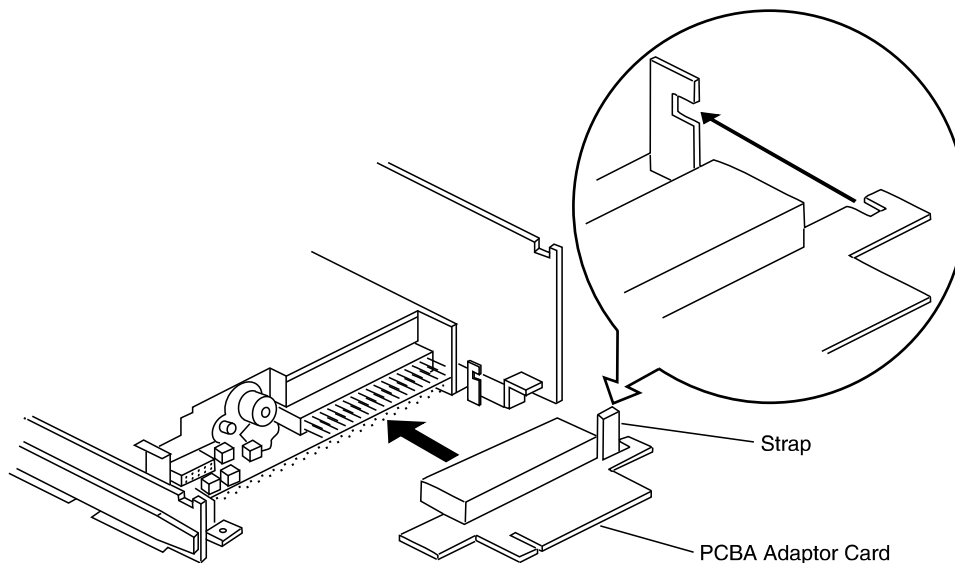

Figure B-8. Floppy Disk Drive Unit PCBA 5 Inch Adapter Card
12. Place the FDD assembly on a work bench equipped with an ESD protection pad and carefully remove the PCBA 5" Adapter board illustrated in Figure B-8, making sure not to bend or twist the connector pins. Remove the mini power cord unless already performed in an earlier step.
3. Hold the new FDD by the metal sides and carefully re-assemble it into the 5.25" mounting hardware and bezel. Re-secure the FDD using the four 3 millimeter Phillips head screws removed in step 14 of "Removing The Floppy Disk Drive Unit". Re-assemble the PCBA adapter board, being careful to re-align the tabs shown in Figure B-8.